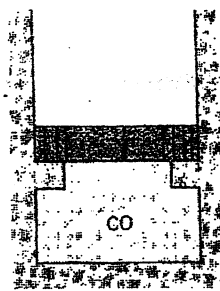

Figure P.10
10. Carbon monoxide (2 kg), contained in the piston-cylinder device as shown in Figure P.10, is initially at a pressure of 1.0 MPa and a temperature of 50°C . Energy is added until the final temperature is 500°C and the pressure is 2.0 MPa. A pressure of 2.0 MPa is required to lift the frictionless piston from the stops. Show the process on P-V and T-V diagrams and determine the total work transfer and total heat transfer. [Take $R = 297 \text{ J/kg K}$, $C_v = 743 \text{ J/kg K}$]